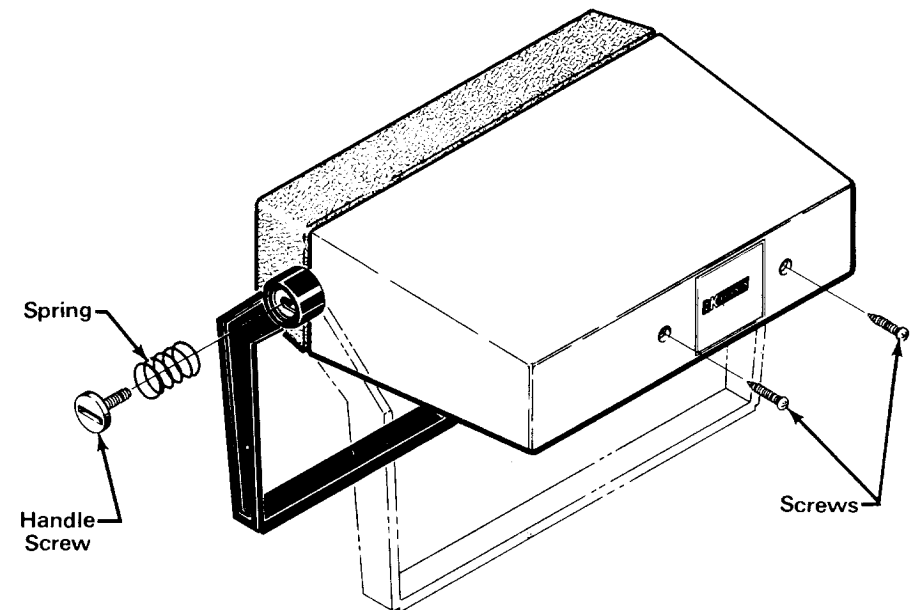

Fig. 17. Removal of rear case.
1. Use a coin (a quarter works best) to remove the two screws that hold the handle to the case. Use caution to avoid losing the springs beneath the screws that hold the handle on the case. Remove the handle. The handle may be reversed if the user desires; refer to Fig. 17.
1. Remove 3010 rear case Refer to Fig. 17.
8. Disconnect the scope probe and counter from the 3010 600 Ω OUTPUT. Carefully re-install the rear case (refer to Fig. 17)
1. Remove case (Fig. 17).